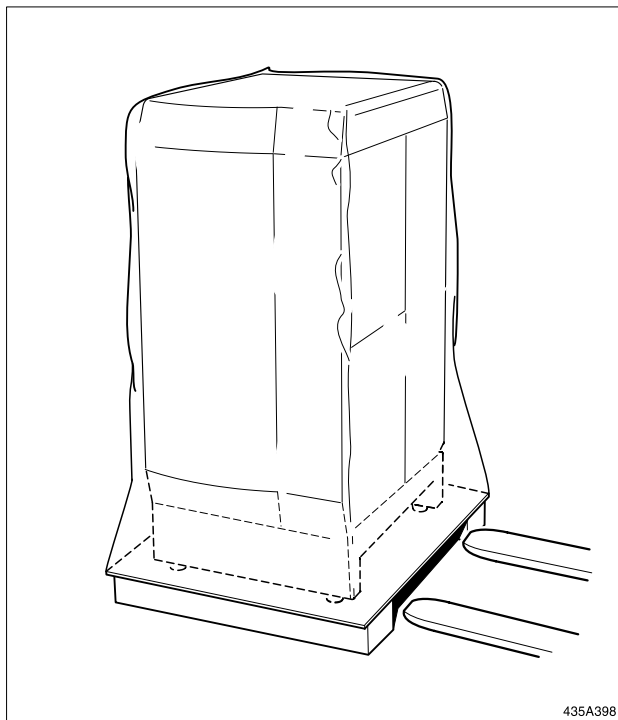

Fig. 1 - UK Packing
4.2 Packing Methods Fig. 1 & 2